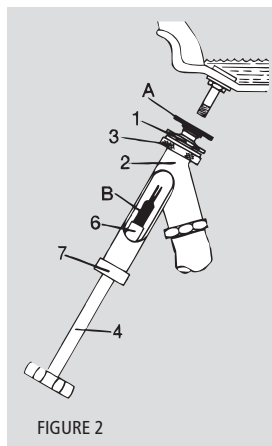

FIGURE 2
To connect liquid fill core ejector to one-piece style front tractor valves TR415, TR413 (figure 2), screw adapter (A) and gasket to union (1). Insert large end of core remover (B) securely into chuck of core housing ejector (6). Screw adapter and union assembly on valve stem finger
Replace core housing in valve stem by pushing handle in until contact is made and turn to right until the core housing is screwed tight in valve stem. Then withdraw handle, turn handle to evacuate, and pump all liquid from hose. Finally, shut off pump, then unscrew ejector body (2) and union (1) from valve. (Fig. 2)